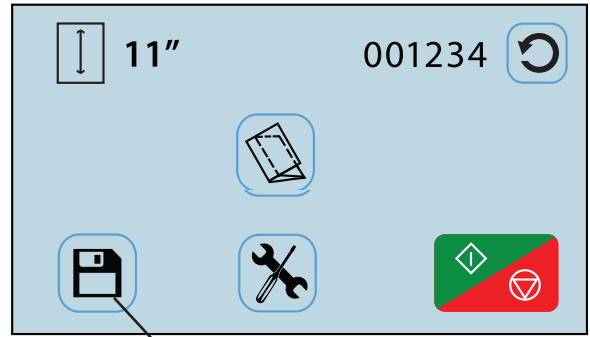

Fig. 17 Saved Job Icon
1. To recall, edit, or delete a saved custom fold from the home screen press the saved job icon  (Fig. 17).